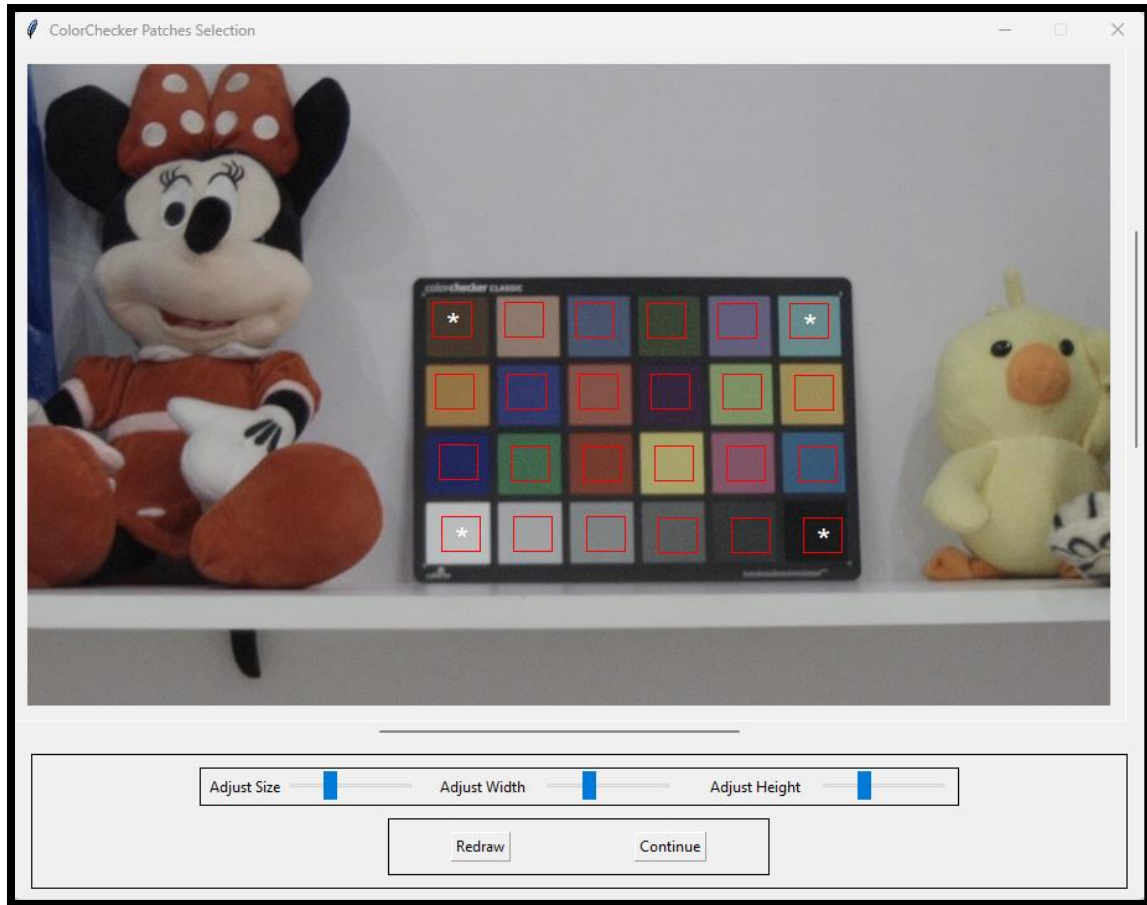

Figure 9: Zoom in to locate ColorChecker correctly and adjusting drawing on it.
- **Zoom In/Out:** Users can zoom in or out of the image using the mouse scroll wheel, and utilize the left and bottom scrollbars to navigate to specific regions of interest within the image. This functionality allows for clear and precise visualization of the ColorChecker present in the image as depicted in Figure 9.